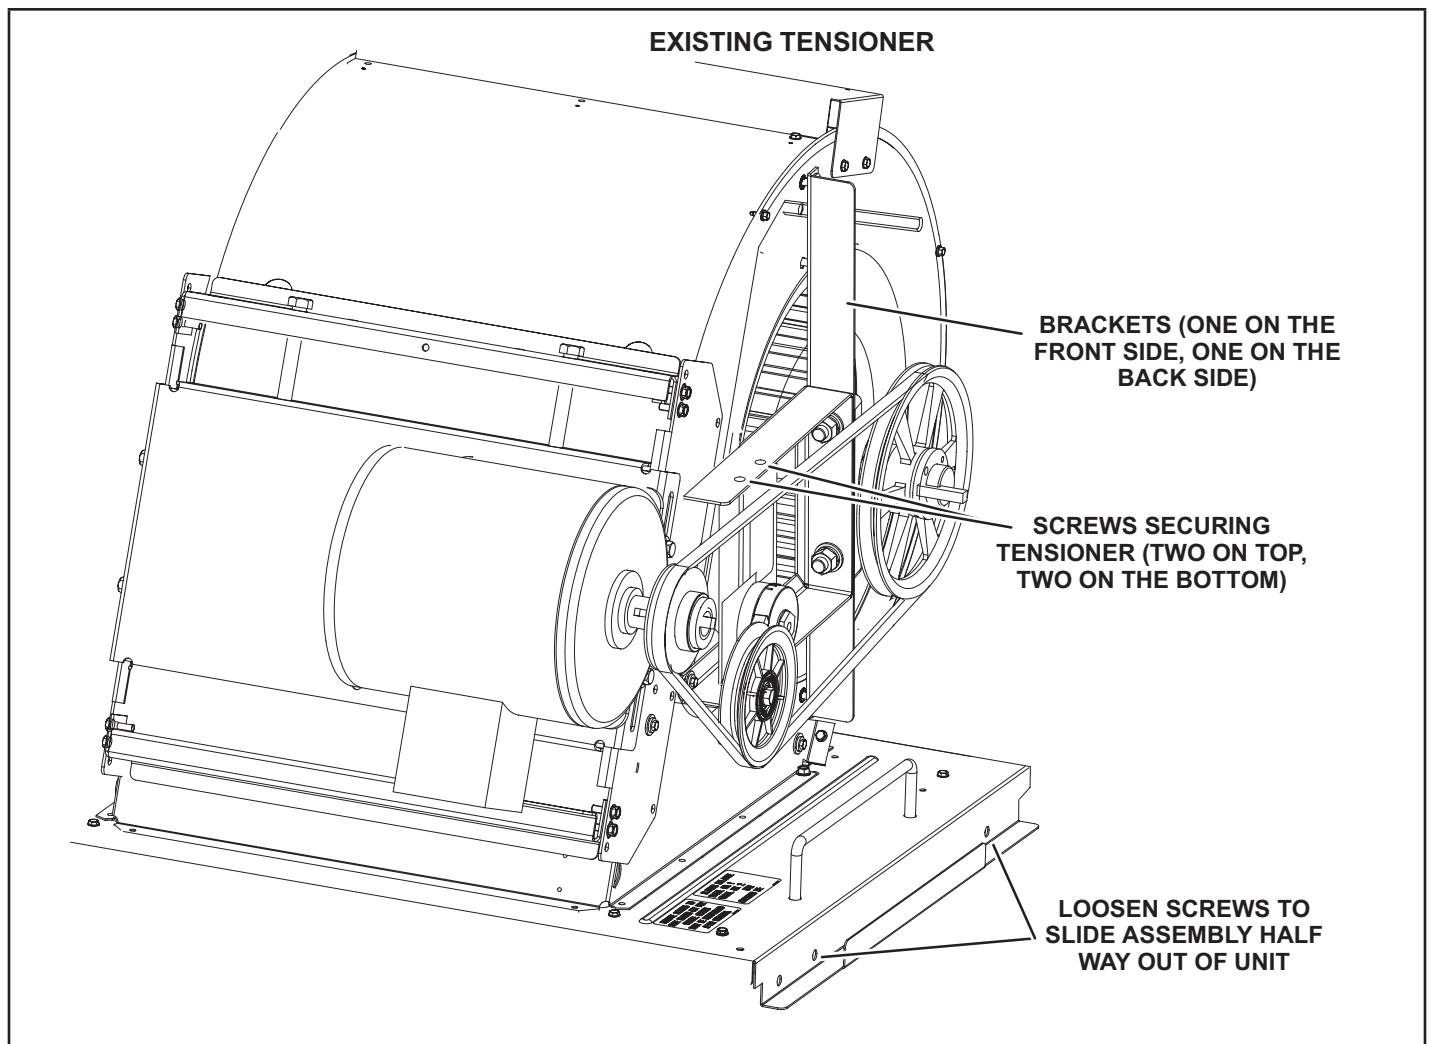

FIGURE 1
- 3 - Loosen screws securing the blower assembly sliding base. See FIGURE 1. Slide the blower assembly half way out of the unit.
- 4 - Remove existing tensioner. See FIGURE 1.